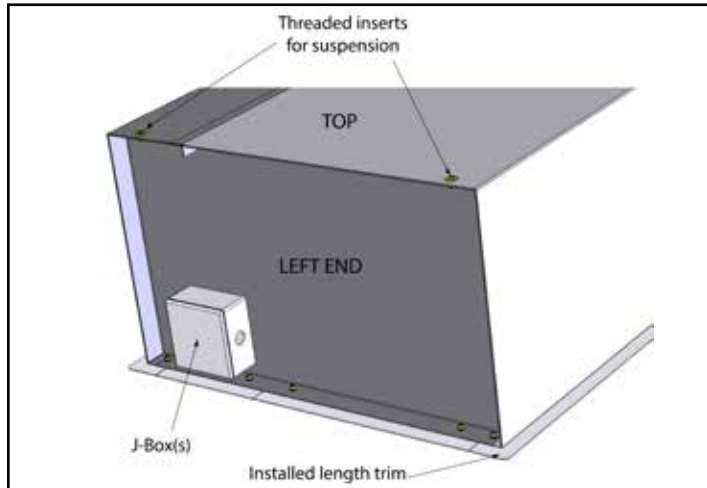

Figure 3
- A. The ARD12 series air curtain enclosure is equipped with four 5/16"-18 threaded inserts on the top of the unit for suspended mounting. **See Figure 3.**
- F. Install the front and back trim using the provided fasteners. **See Figure 3.**